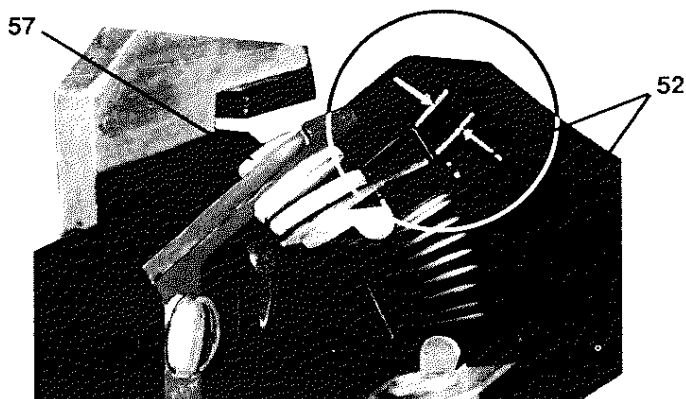

Figure 3 Electrical Interlock Contact Follow-Up
Refer to Figure 3 when adjusting the electrical interlock.
1. Remove all power. Visually verify that electrical interlock (item 49) has proper follow-up. With new electrical interlock contacts, moving contacts (item 52) should provide at least 1/16" follow-up on each stationary contact when contact arm reaches its limit of travel, either completely closed or completely opened (see Figure 3).
3. Electrical interlock follow-up can be adjusted by bending stationary contacts (items 56 & 57).